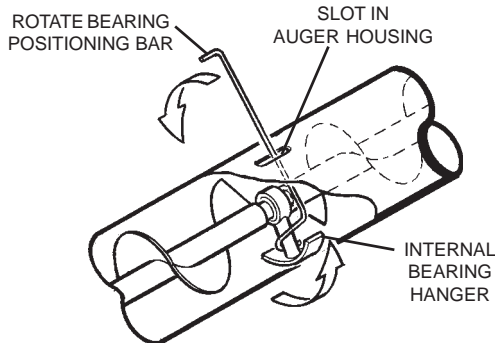

FIG. 9A
- Insert the double bended end of bearing positioning bar into slot and hook the internal bearing hanger stem. Rotate the bearing upward as much as possible. See Fig. 9A on page 19.